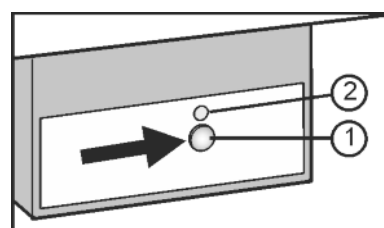

Fig. 9
- Press the On/Off button Fig. 9 (1) so that the LED Fig. 9 (2) shines.